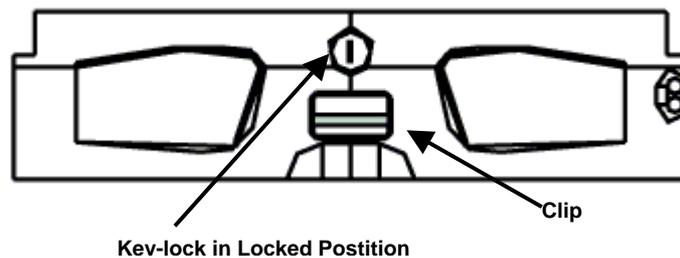
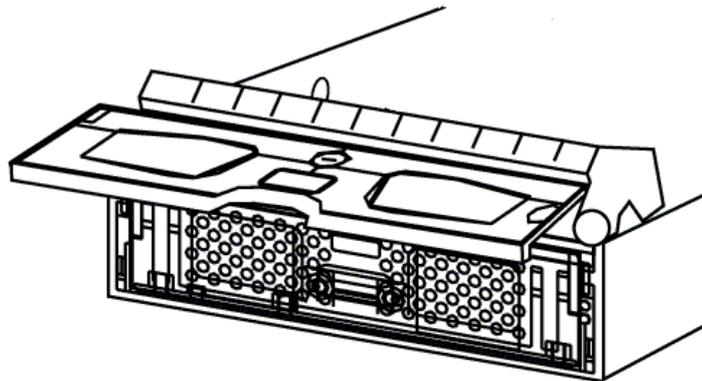

Figure 2-17: Front View of an Individual Drive Tray
Figure 2-18: Drive Tray Front Flap
Step 1. Make sure the key-lock is in the unlocked position. The key-lock is unlocked if the groove on its face is in a horizontal orientation. If the groove is in a vertical position, as shown in *Figure 2-17*, then the key-lock is locked and the front flap on the drive tray cannot be opened.
Step 2. Open the front flap on the drive tray. (See *Figure 2-18*) To open the flap, push the clip (shown in *Figure 2-17*) on the front of the drive tray in an upward direction. The clip is easy to access and lift.